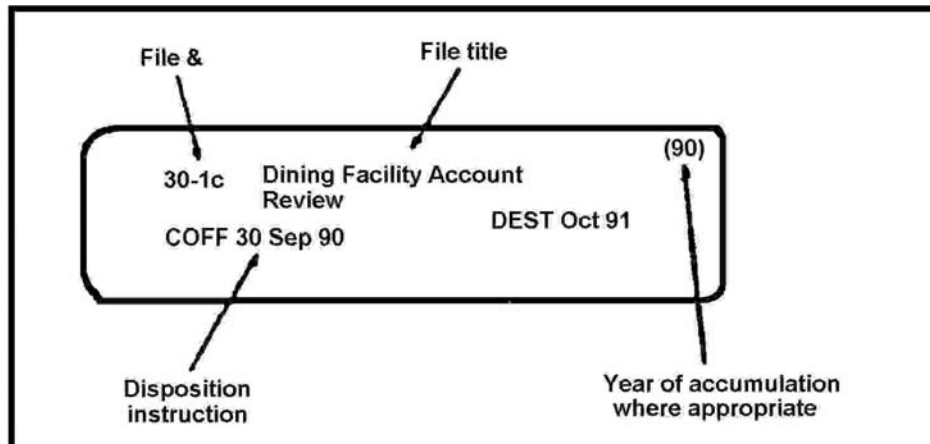

Figure 3-17. Sample Label Showing Various Elements
1. Prepare file folders with labels showing the file number, file title, disposition instructions, inclusive dates, and cutoff dates (see Figure 3-17).